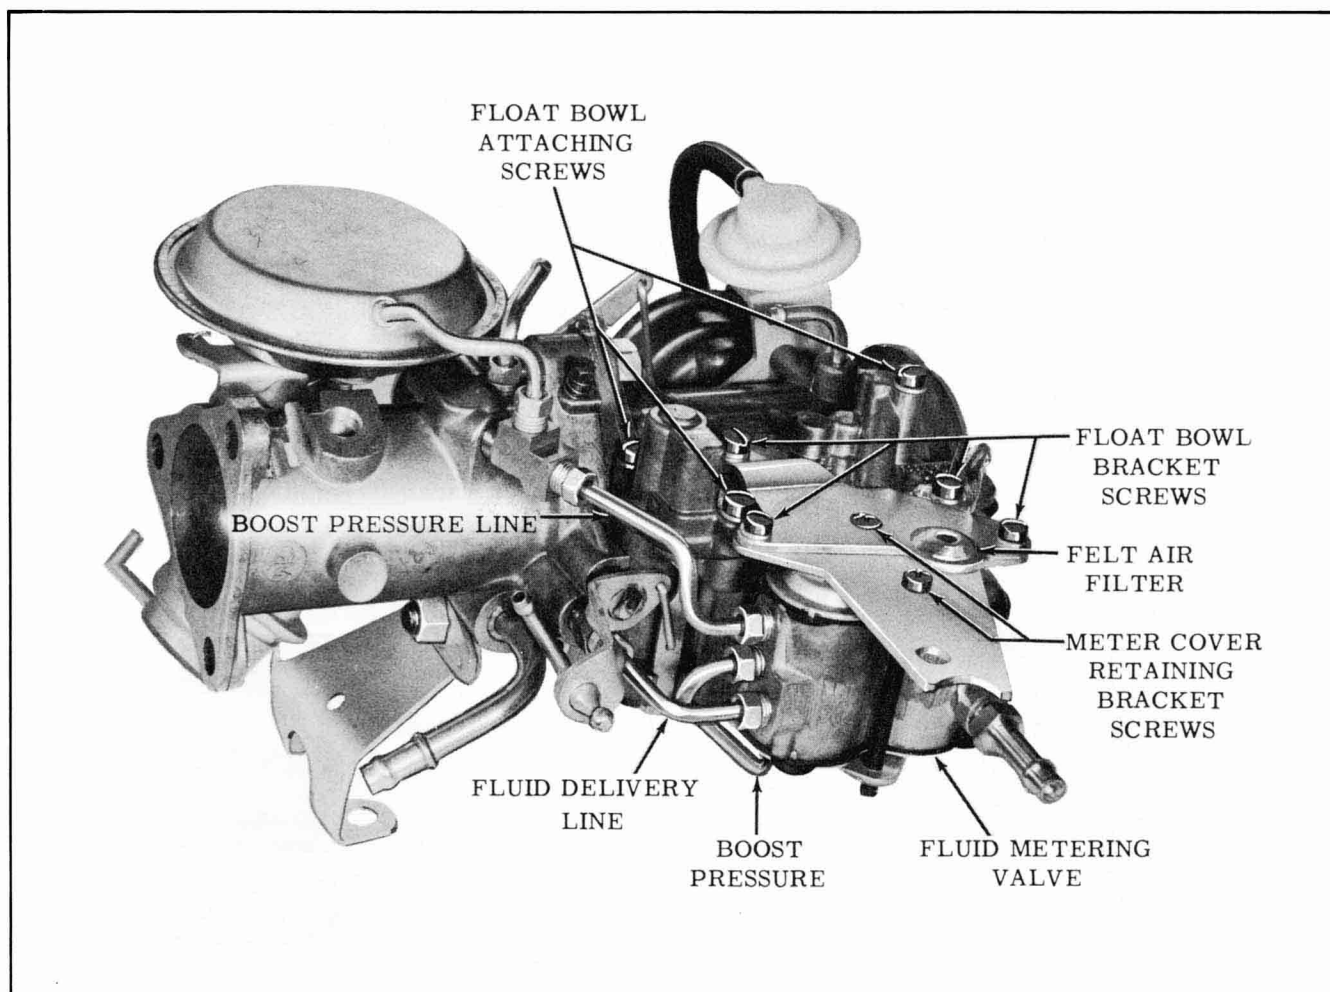

Fig. 9-111 Carburetor Assembly
Remove and Install (Fig. 9-111)
8. Connect lines in their respective positions before attaching fluid meter to carburetor (Fig. 9-111). Connect middle line first, making sure all tubes are in line with holes before tightening fittings.